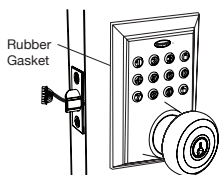

Figure 6a-b
- Check that the Rubber Gasket is properly seated on the Exterior Assembly (Figure 6a-b).